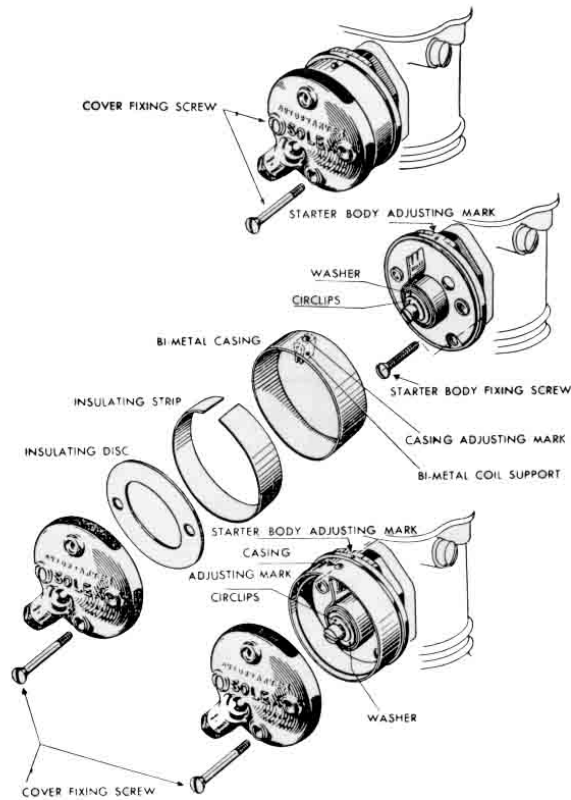

Figure 1
a) ICBT Model (fig. 1)
- (1) Unscrew the biconical joint.
- (2) Unscrew the two fixing screws on the cover.
- (3) Take off the Autostarter cover.
- (4) Remove the casing and its insulation.
- (5) Take off the body of the Autostarter by removing the 4 fixing screws.